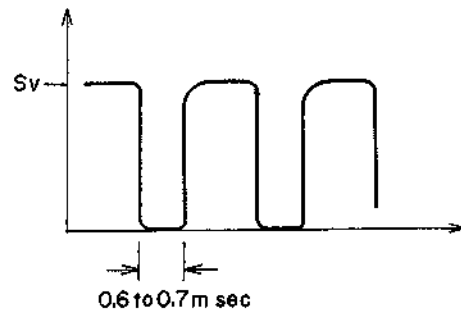

Fig. 40
- 3) Adjust VR3 until the oscilloscope waveform in Fig. 40 is obtained.
- 4) Revolve the platter once and check that the pulse wave only enters the places where there are holes. Next check that the waveform in Fig. 40 appears at each hole.